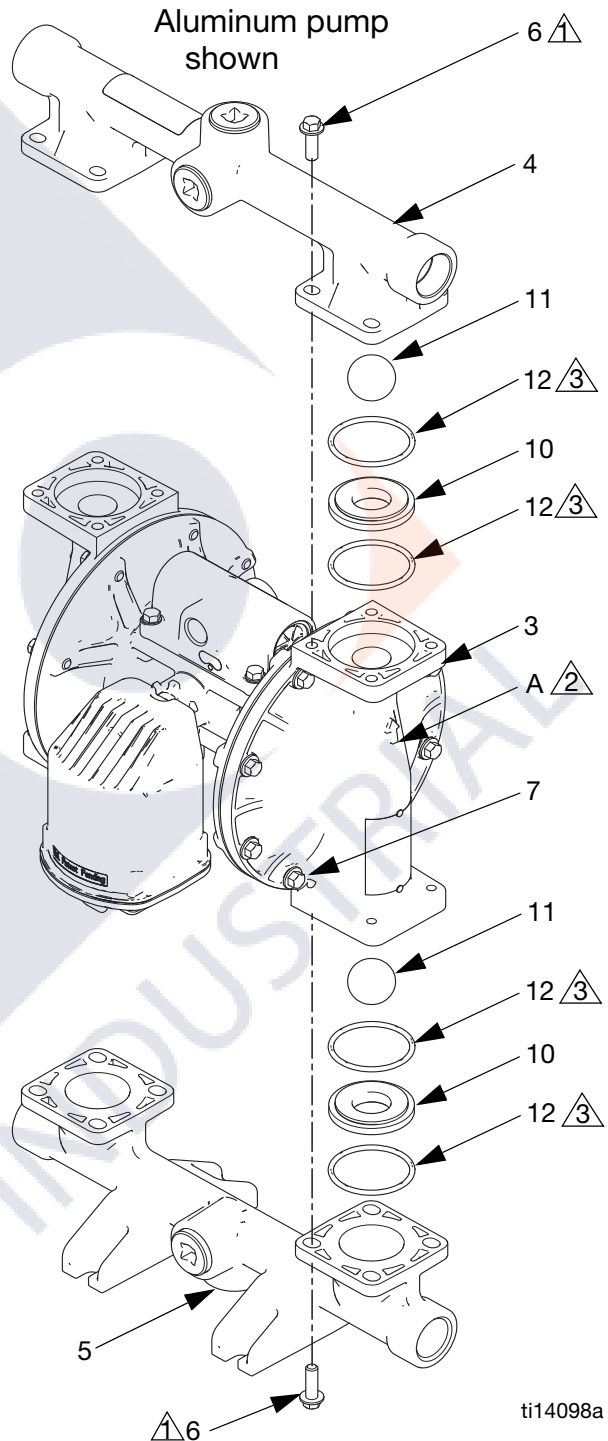

FIG. 7. Ball check valve assembly
3. Use a 10 mm socket wrench to remove the outlet manifold fasteners (6). See FIG. 7.
4. Remove the o-rings (12, *not used on some models*), seats (10), and balls (11).
5. Turn the pump over and remove the inlet manifold. Remove the o-rings (12, *not used on some models*), seats (10), and balls (11).
2. Reassemble in the reverse order, following all notes in FIG. 7. Be sure the ball checks (10-12) and manifolds (4, 5) are assembled **exactly** as shown. The arrows (A) on the fluid covers **must** point toward the outlet manifold (4).
- ➡ 2 Arrow (A) must point toward outlet manifold.